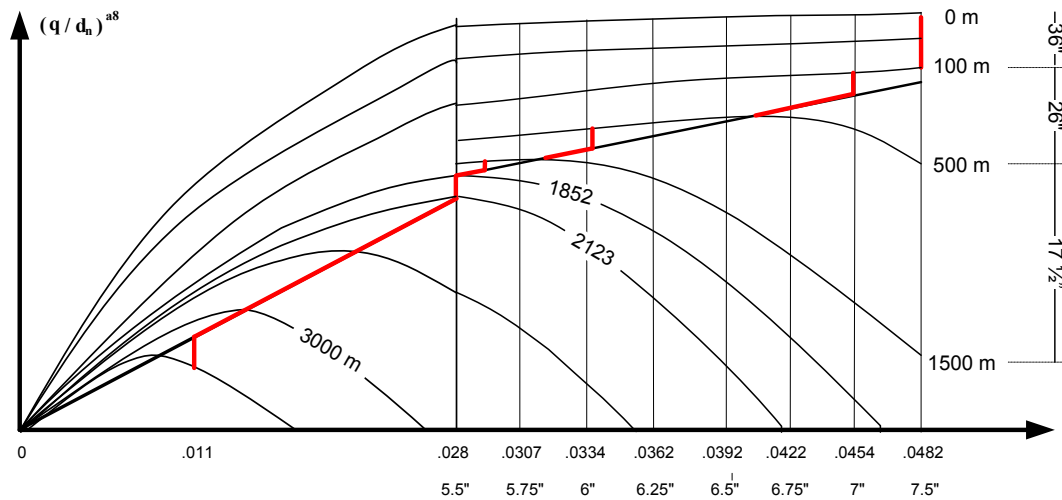

Figure 4-6: Graphical solution.
d) From Table 4-6 in the Task section we can see that between 1 500 and 3 000 m there are two potential options. However, from Figure 4-6 above we already know that at 1 852 m we are inside pump range I, and applying the 5½" liner. We also see that the maximum flow rate of the 5½" liner is the optimum one for most of its operational time. This has already been shown in task b) above.